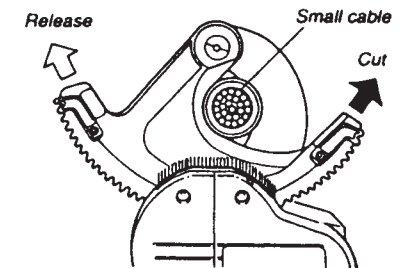

Figure 7
4. To cut several small cables continuously, alternate use of Forward and Reverse modes with the moving blade still engaged with the drive mechanism of the unit. (figure 7)